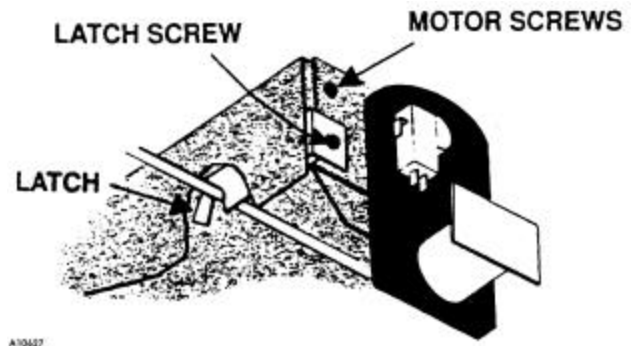

Figure 12. Motor Bracket
3. Remove the latch screw and latch. See **Figure 12**.
8. To remove the vend motor, remove the two screws on the motor bracket. See **Figure 12**.